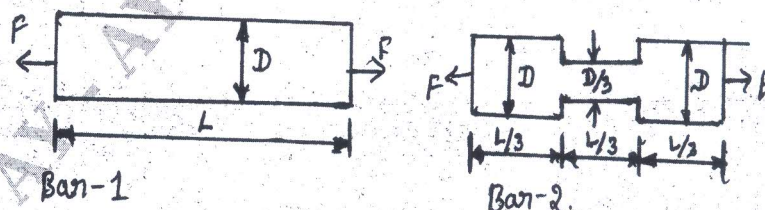

Fig Q8(b)
- b. Two bars are subjected to equal gradually applied tensile load as shown in Fig Q8(b). Compare :